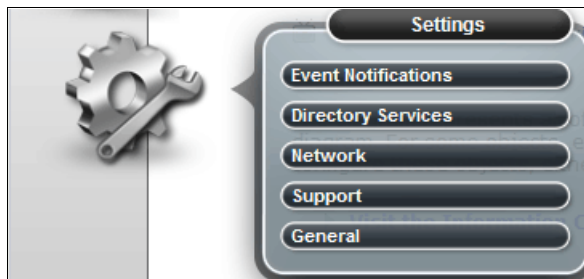

Figure 13-10 Management GUI - settings
2. Log in to your IBM Flex System V7000 Storage Node management GUI (Disperser and default password: `passw0rd`) From IBM Flex System V7000 management GUI home page, go to **Settings** → **General**, as show in Figure 13-10.